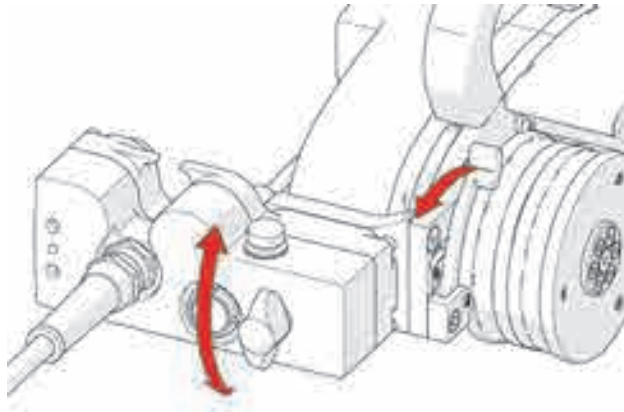

Figure 4-12 Adjust umbilical mount angle
4. Use the lock lever to position the umbilical mount at the desired angle (see Figure 4-12 on page 101). The SteerROVER scanner's umbilical mount can pivot to allow low profile scanning.